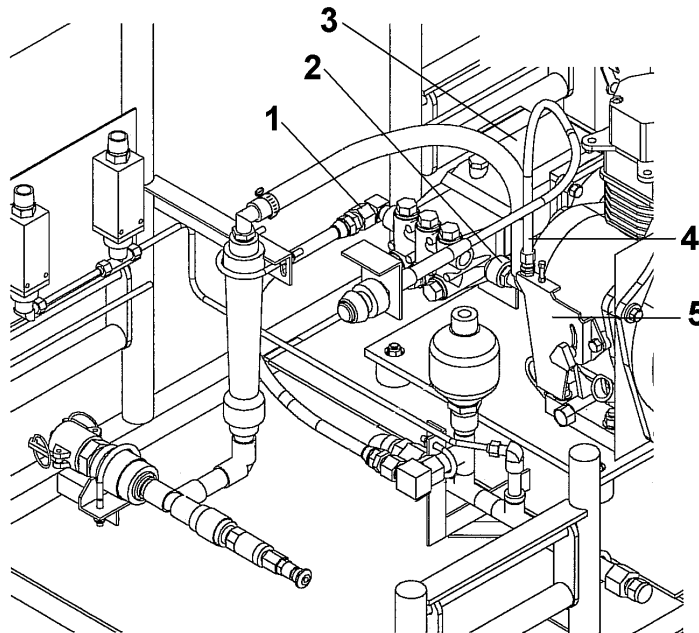

Figure 4. High and Low-Pressure Hoses/Throttle.
3. Remove outlet hose (1) and inlet hose (2) from the high-pressure pump (3). See Figure 4.
4. Remove throttle cable (4) from the throttle plate (5). See Figure 4. See WP 0099 00.